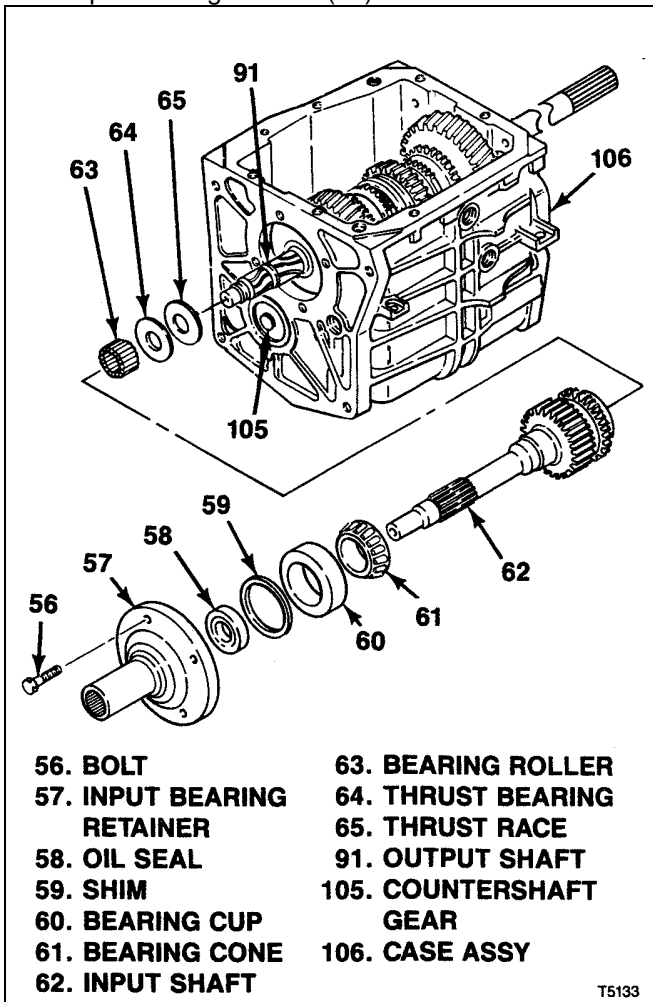

Figure 7-11. T5 STD Input Shaft
**7-13. ASSEMBLY AND INSTALLATION OF T5 STD INPUT SHAFT.** After installing output shaft, proceed as follows (see figure 7-11):
- a. If removed, press new bearing cone (61) onto input shaft (62) to bottom out on shaft shoulder. Use suitable tubular drift that contacts bearing cone inner race only.
- b. Coat bearing rollers (63) with petrolatum and install in end of input shaft.
- c. Install thrust race (65) and thrust bearing (64) on end of output shaft (91) in transmission.
- d. Rotate input shaft (62) (with bearing rollers) so that flat on its clutch tooth ring aligns with countershaft (105) and install in transmission, over end of output shaft (91) using care not to dislodge bearing parts previously installed.
- e. Using suitable drift, press new oil seal (58) into input bearing retainer (57).